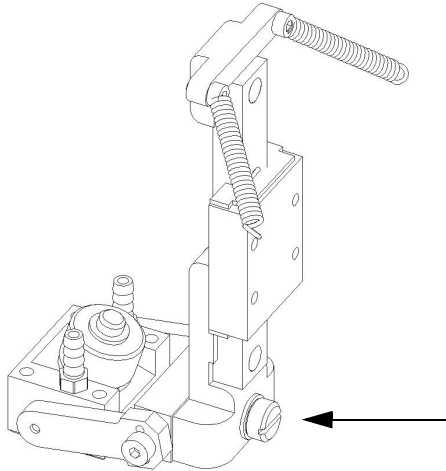

Figure 2-26 The screw that holds the yoke on the bearing arm
5. Using a flat screwdriver, at the back of the bearing arm, unscrew the screw to free the yoke from the bearing arm (see Figure 2-26 on page 43).